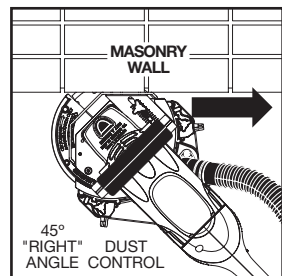

Figure 18
- Masonry, stone, and tile undercutting creates a lot of dust. Use the dust control port with a vacuum and cut on the 45° "right" angle (Figure 18). Wear an approved dust mask or respirator (see below for further warnings related to dust). Place a light cloth over the air intake of the saw to prolong the life of the saw.